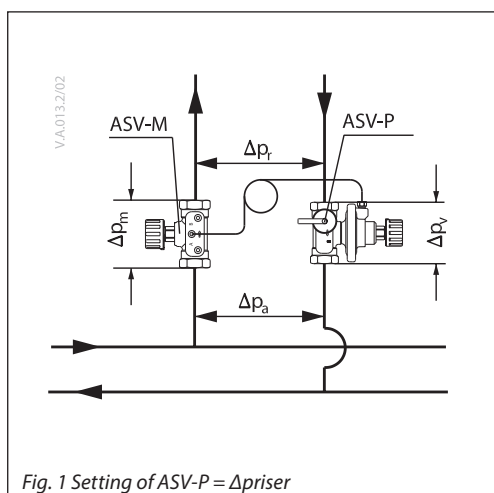

Fig. 1 Setting of ASV-P = Δp_{riser}
- partner valve outside the control loop (Fig. 1). Recommended configuration: it results in best performance since whole controlled pressure range is available to the riser. Flow limitation is done on each terminal unit in the riser (for example, RA-N with presetting on radiator, etc).
ASV-I has to be used as partner valve inside control loop (Fig. 1). ASV-I and ASV-P(V) is connected via an impulse tube, and there by giving a constant differential pressure across the riser and ASV-I.
- partner valve inside control loop (Fig. 1). Offers flow limitation on the riser however part of the controlled pressure range is used by pressure drop on partner valve (Δp_v). It is recommended when flow limitation on each terminal units is not possible.